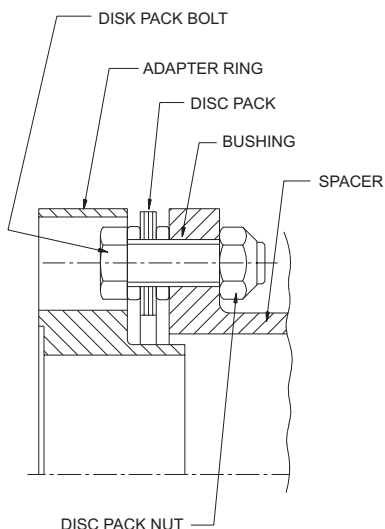

Figure 8. Bolt Disc Pack to Spacer.
- 6.5 Line up the bushings with the spacer reamed holes, lightly tap the bushings to start them in the holes. Install and tighten 3 disc pack bolts and nuts with bolt heads in the ring (see Figure 8).